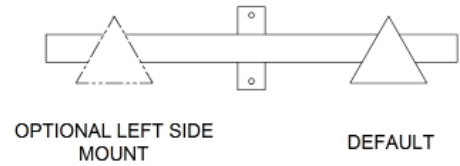

Figure 3: Mounting Side Options
- Left side phase mounting (Available on Configuration 1 & 4 only, see Fig. 3)